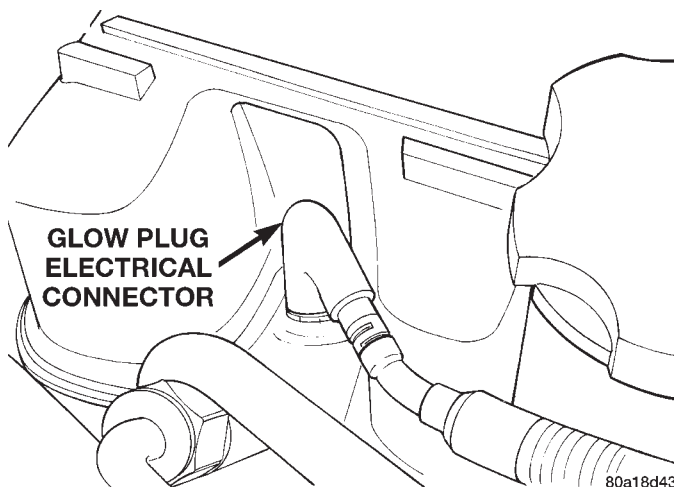

Fig. 14 Glow Plug Connector
(4) Verify that the electrical connections for the ASD relay are clean and free of corrosion. This relay is located in the PDC. For the location of the relay within the PDC, refer to label on PDC cover.
(5) Verify that the electrical connections for the fuel heater relay are clean and free of corrosion. This relay is located in the PDC. For the location of the relay within the PDC, refer to label on PDC cover.
(6) Be sure the electrical connectors at the ends of the glow plugs (Fig. 14) are tight and free of corrosion.